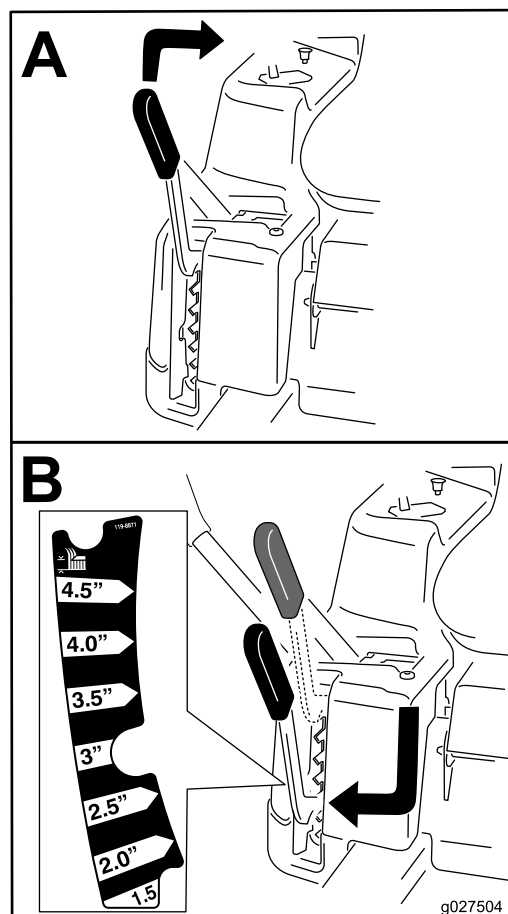

Figure 17
**Note:** The transport position is the highest height-of-cut position or cutting height at 115 mm (4.5 inches) as shown in Figure 17.